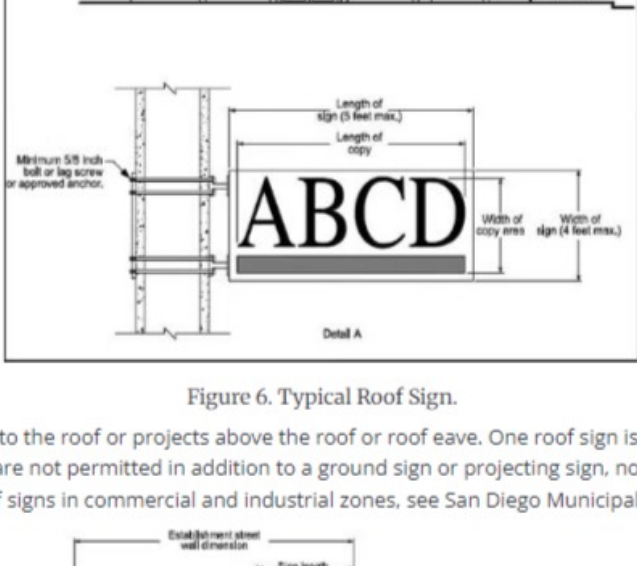

Figure 6. Typical Roof Sign.
6. Roof Signs mounted at or above the building roof line. See Figure 6.